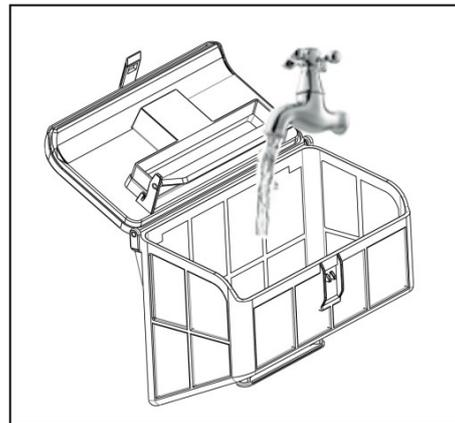

Figure 4-4
5.5.3 Rinse the filter basket (Figure 4-4)